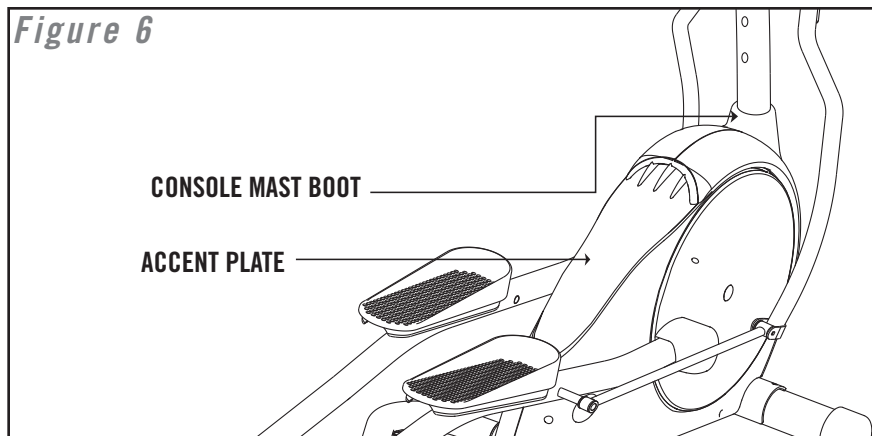

Figure 6
11) Lift console mast boot. (Figure 6)
12) Remove the accent piece by gently lifting up at the bottom of the accent piece and lifting towards the front of the machine. (Figure 6)